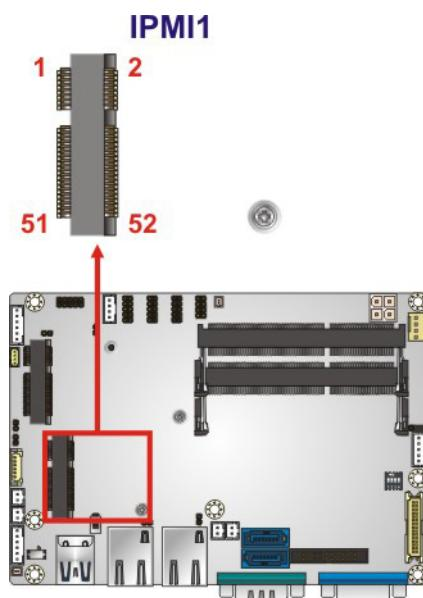

Figure 3-12: iRIS Module Slot Location
**CN Location:** See **Figure 3-12**